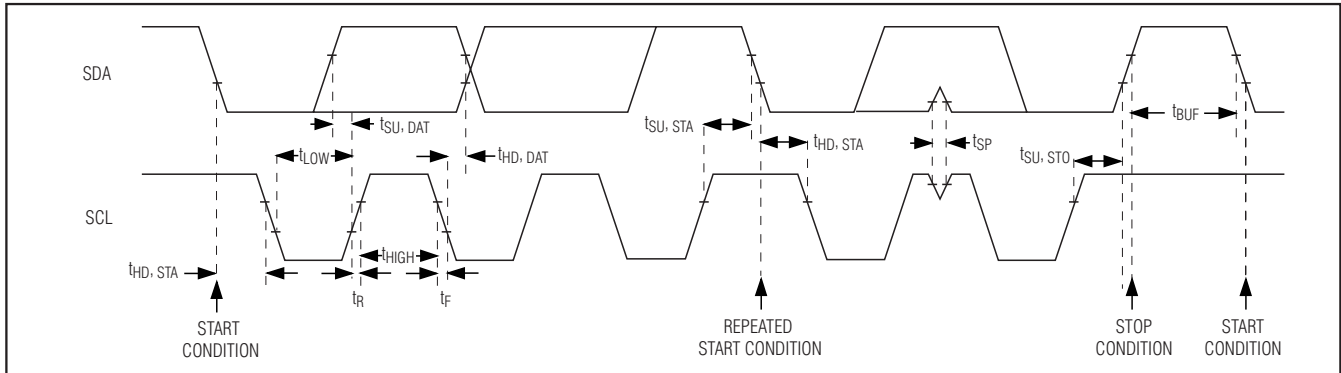

Figure 10. I2C Serial Interface Timing Diagram
The MAX9526 features an I2C/SMBus™-compatible, 2-wire serial interface consisting of a serial-data line (SDA) and a serial-clock line (SCL). SDA and SCL facilitate communication between the MAX9526 and the master at clock rates up to 400kHz. Figure 10 shows the 2-wire interface timing diagram. The master generates SCL and initiates data transfer on the bus. The master device writes data to the MAX9526 by transmitting the proper slave address followed by the register address and then the data word. Each transmit sequence is framed by a START (S) or REPEATED START (Sr) condition and a STOP (P) condition. Each word transmitted to the MAX9526 is 8 bits long and is followed by an acknowledge clock pulse. A master reading data from the MAX9526 transmits the proper slave address followed by a series of nine SCL pulses. The MAX9526 transmits data on SDA in sync with the master-generated SCL pulses. The master acknowledges receipt of each byte of data. Each read sequence is framed by a START or REPEATED START condition, a not acknowledge, and a STOP condition. SDA operates as both an input and an open-drain output. A pullup resistor, typically greater than 500 $\Omega$ , is required on SDA. SCL operates only as an input. A pullup resistor, typically greater than 500 $\Omega$ , is required on SCL if there are multiple masters on the bus, or if the single master has an open-drain SCL output. Series resistors in line with SDA and SCL are optional. Series resistors protect the digital inputs of the MAX9526 from high-voltage spikes on the bus lines, as well as minimize crosstalk and undershoot of the bus signals.